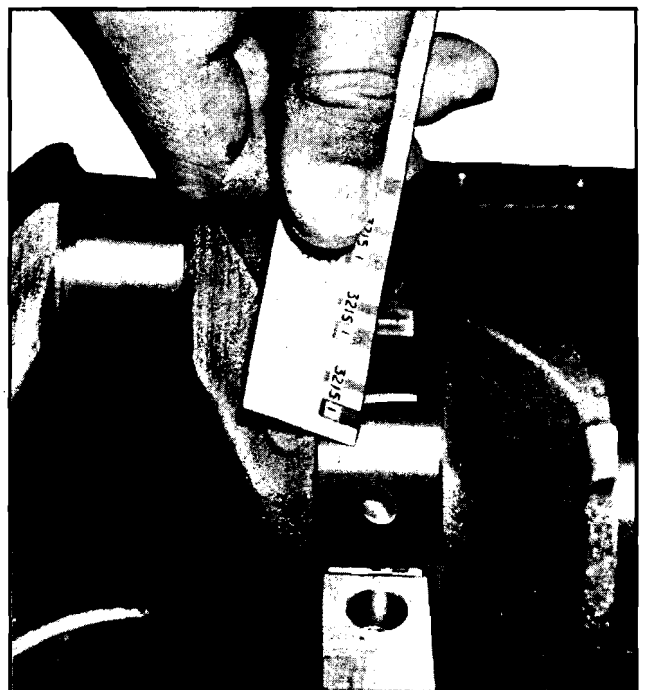

Fig. 6-49 Measuring Plastigage (or Equivalent)
4. Remove bearing cap and using Plastigage, or equivalent, scale on envelope measure width of compressed Plastigage, or equivalent, before removing it from the bearing or journal (Fig. 6-49). If bearing clearance is between .0003" and .002", the clearance is satisfactory. If clearance is more than .002", replace bearing with next undersize bearing and recheck clearance. Bearings are available in standard size .001" and .002" undersize.
3. Remove bearing cap and using Plastigage scale, or equivalent, on envelope measure width of compressed Plastigage, or equivalent, before removing it from the crankpin or bearing (Fig. 6-49). If bearing clearance is between .0005" and .0028", clearance is satisfactory. If clearance is more than .0028", replace bearing with next size undersize bearing and recheck clearance. Bearings are available in .001", and .002" undersize.